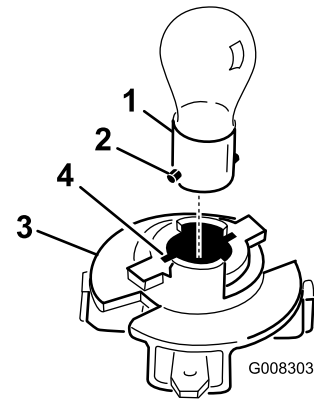

Figure 32
3. Tab (2)
8. Push and rotate the bulb counterclockwise about 1/4 turn until it stops and remove the bulb from the bulb holder (Figure 32).
1. Align the metal pins on the base of the bulb with the slots in the bulb holder and insert the base into the holder (Figure 32).